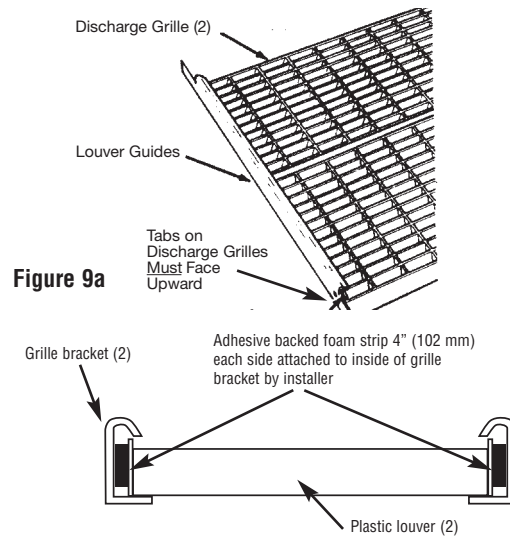

Figure 9a
- Fit the two louver guides over the two discharge grilles as shown in Figure 9a.